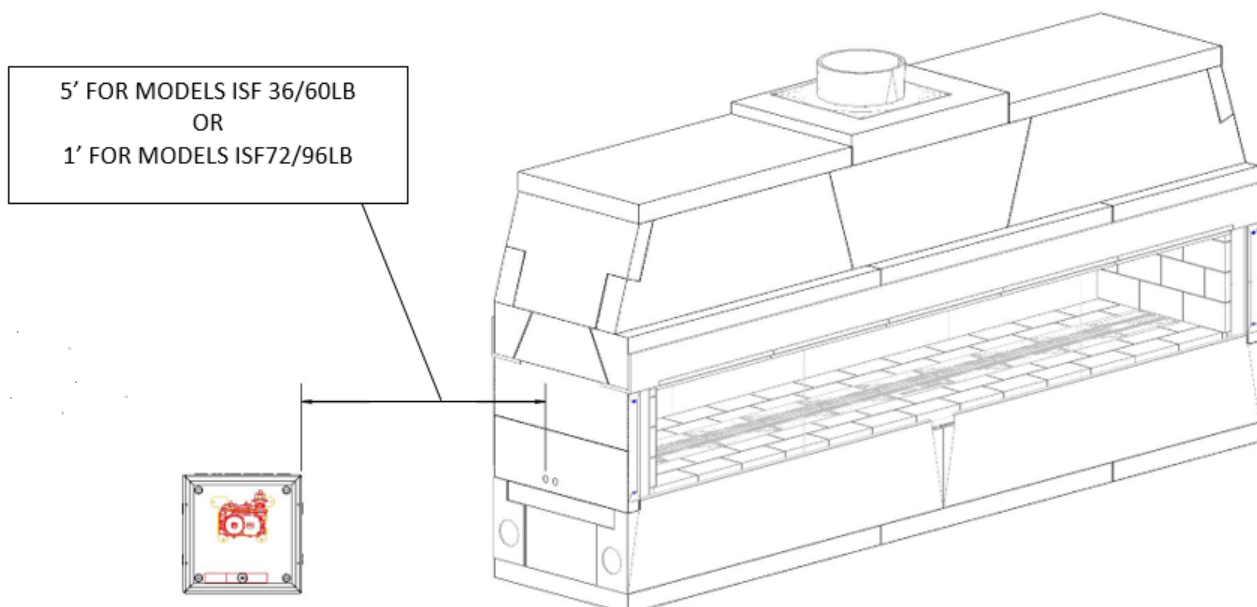

FIGURE 56
- 1) The valve control box comes with an 84" pilot assembly lead; therefore, the box must be mounted within 5' of the fireplace for models ISF36/60LB and within 1' for models ISF72/96LB. **(Figure 56)**